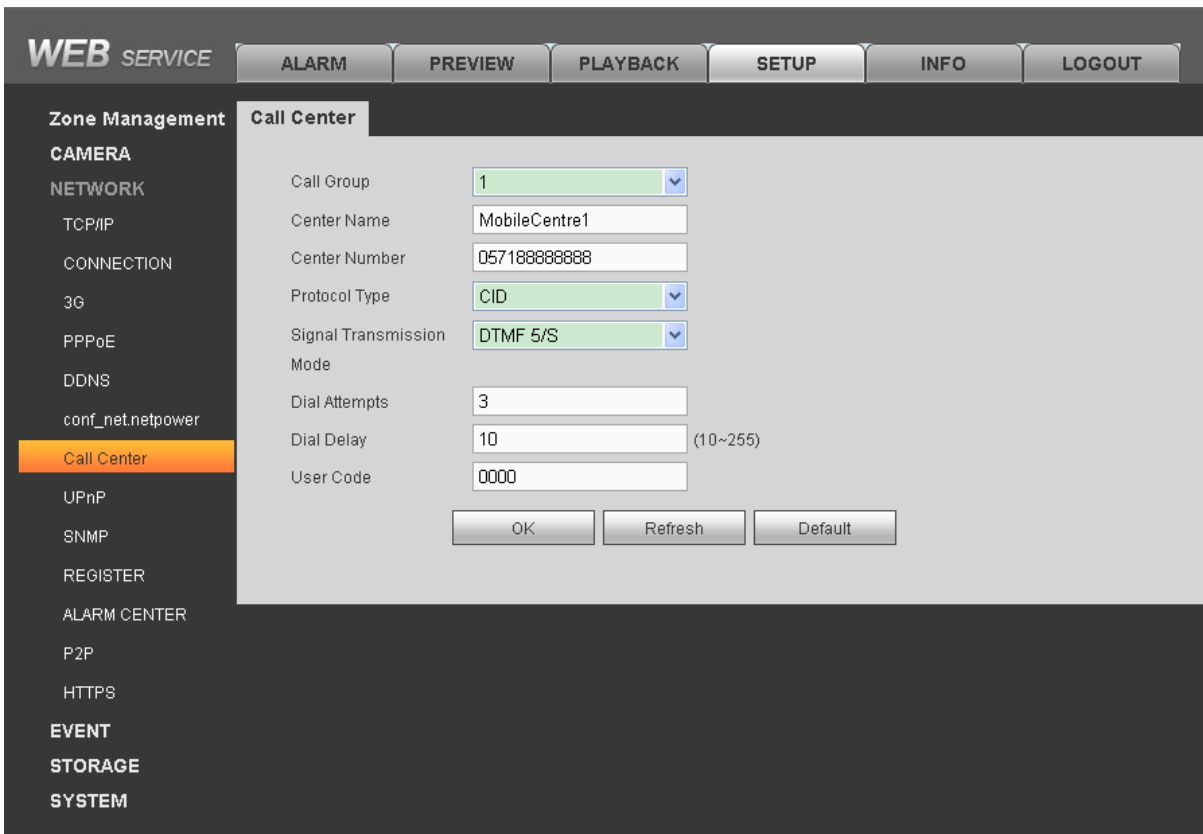

Figure 4- 19
Step 1. Select SETUP>Network>Call Center. See Figure 4- 19.